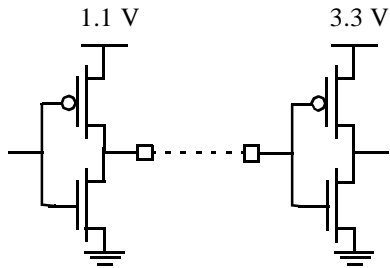

FIG. 4 Interconnecting chips operating at different voltages
c. Two chips operating at different voltages have to be connected together. The straightforward approach would be to just connect the output and input gates, as shown in Figure 4. Mention 3 major problems of this approach.